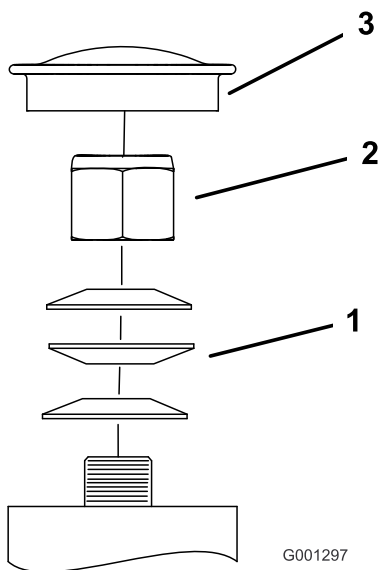

Figure 59
3. Remove the dust cap from the caster and tighten the locknut (Figure 59).
4. Tighten the locknut until the spring washers are flat, and then back off a 1/4 turn to properly set the preload on the bearings (Figure 59).
Important: Make sure that the spring washers are installed correctly as shown in Figure 59.
5. Install the dust cap (Figure 59).